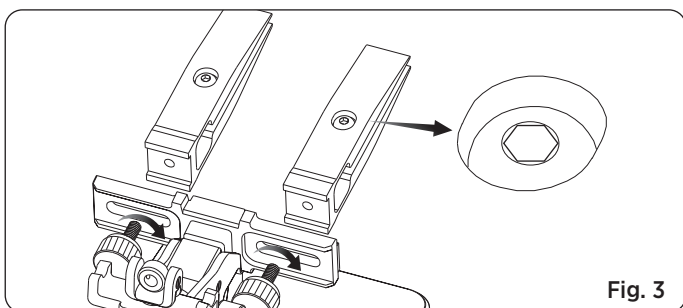

Fig. 3
**Tip:** Ensure the fastening screws on the clamps are facing upward (See Fig. 3).